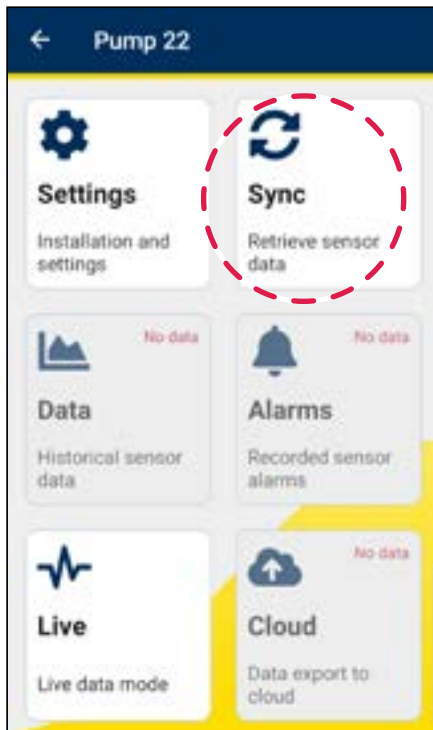

Figure 38
3. **Sync** the sensor data with Bluetooth® (see figure 38).